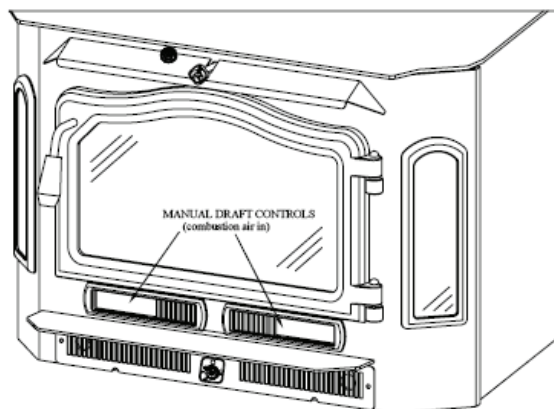

FIGURE 13: MODEL B, BBF, and O2 MANUAL DRAFT CONTROL
- a. **Model B, Model BBF, and Model O2 Manual Draft Control Slides:** Refer to FIGURE 13 for the location of the two manual draft control slides on these models.